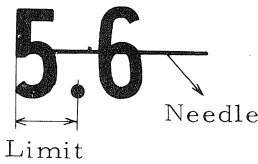

Fig. 33
- The protruding length of the needle should be within the range shown in the following diagram. (Fig. 33)